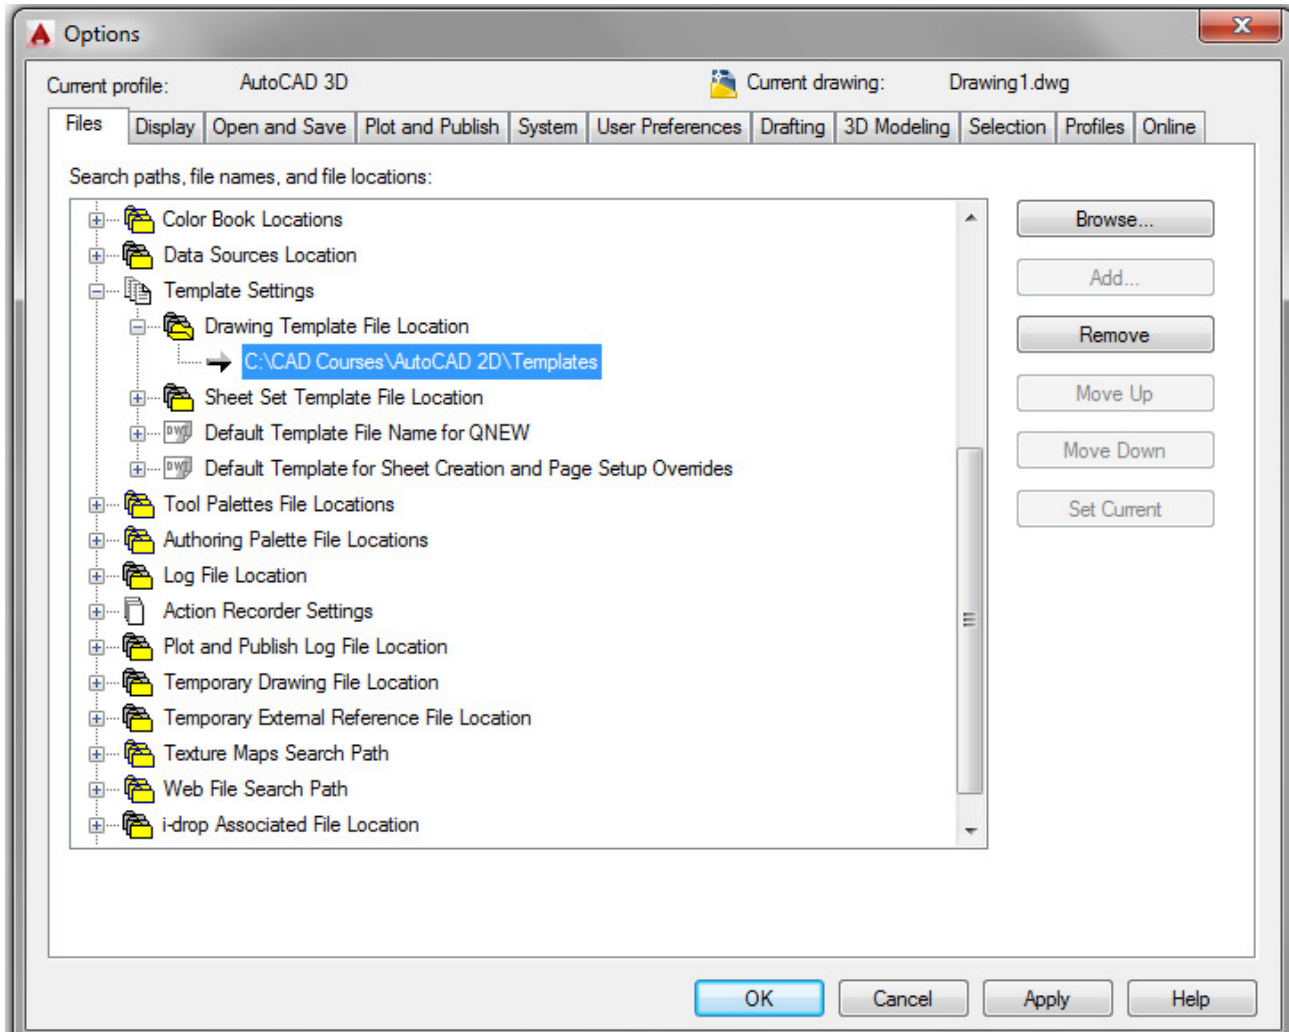

Figure Step 21
Step 21 In the Options dialogue box, enable the Files tab. Expand Template Settings and Drawing Template File Location. Highlight the current location by clicking it. Click the Remove button. (Figure Step 21)